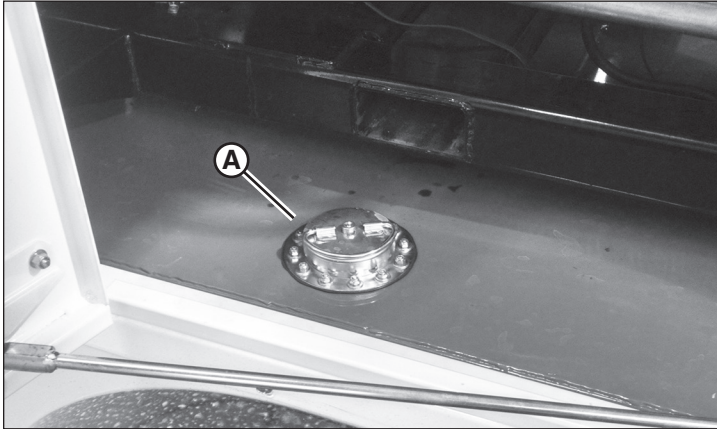

Figure 14
The heater trailer is equipped with a 270-gallon (1022 L) fuel tank. The fuel cap (A, Figure 14) is located inside the control compartment to the left, beneath the control panel.
- Turn the fuel cap (A, Figure 14) counterclockwise 1/4 turn and remove.